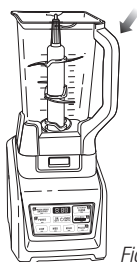
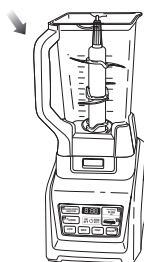

Fig. 4a
Fig. 4b
- 5 The pitcher can be placed on the motor base two ways; the handle can be on the front right corner or the front left corner. **(Fig. 4a, Fig. 4b)**